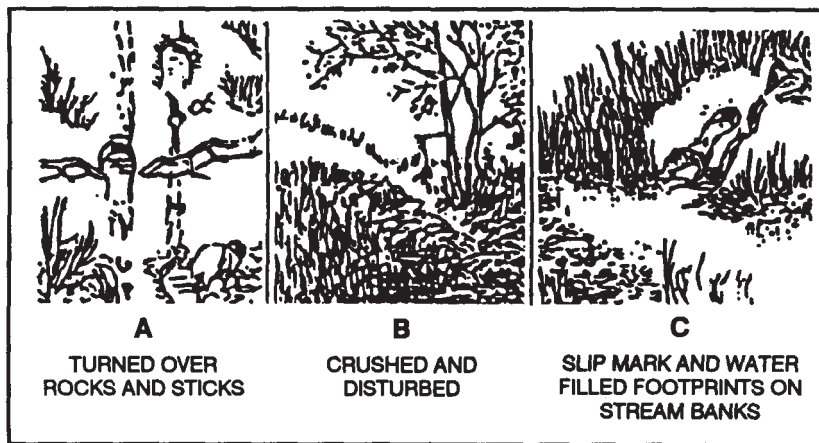

Figure 8-4. Other displacements.
c. **Recognizing Other Signs of Displacement** Foliage, moss, vines, sticks, or rocks that are scuffed or snagged from their original position form valuable indicators. Vines may be dragged, dew droplets displaced, or stones and sticks overturned (A, Figure 8-4) to show a different color underneath. Grass or other vegetation may be bent or broken in the direction of movement (B, Figure 8-4).
(1) The sniper inspects all areas for bits of clothing, threads, or dirt from footgear that can be torn or can fall and be left on thorns, snags, or the ground.
(2) Flushed from their natural habitat, wild animals and birds are another example of displacement. Cries of birds excited by unnatural movement is an indicator; moving tops of tall grass or brush on a windless day indicates that someone is moving the vegetation.
(3) Changes in the normal life of insects and spiders may indicate that someone has recently passed. Valuable clues are disturbed bees, ant holes uncovered by someone moving over them, or tom spider webs. Spiders often spin webs across open areas, trails, or roads to trap flying insects. If the tracked person does not avoid these webs, he leaves an indicator to an observant sniper.
(4) If the person being followed tries to use a stream to cover his trail, the sniper can still follow successfully. Algae and other water plants can be displaced by lost footing or by careless walking. Rocks can be displaced from their original position or overturned to indicate a lighter or darker color on the opposite side. The person entering or exiting a stream creates slide marks or footprints, or scuffs the bark on roots or sticks (C, Figure 8-4). Normally, a person or animal seeks the path of least resistance; therefore, when searching the stream for an indication of departures, snipers will find signs in open areas along the banks.